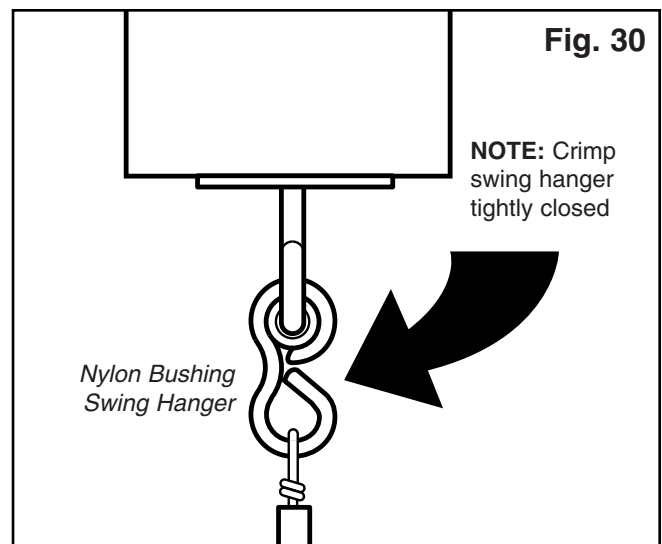

Fig. 30
4. Hang the chains from the nylon bushing swing hangers. Crimp the hook opening closed with a pliers to secure the chains to the swing hangers (Fig. 30). Make sure all connections are tightly crimped and secure before using swing seat.